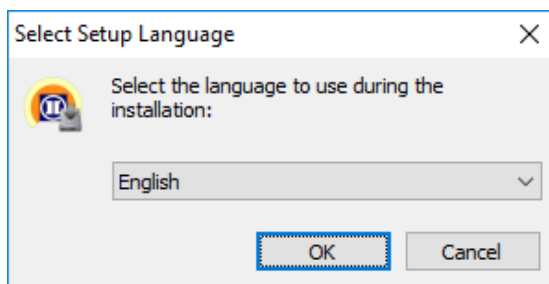

Figure 2-1 Select the language for an installer
3. As shown in figure 2.1 click “ok”, then the screen of the installation location of Area Designer is displayed. If there is no particular specification then, click “next”.